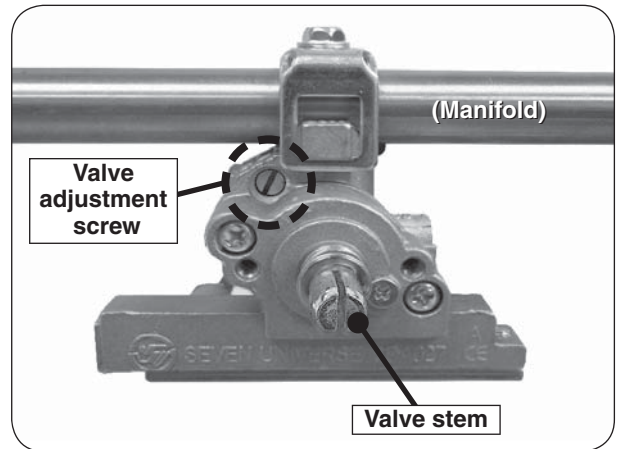

Fig. 24-1 Valve adjustment screw location
5. Locate the FLATHEAD adjustment screw found above the valve stem and below the manifold (see Fig. 24-1).